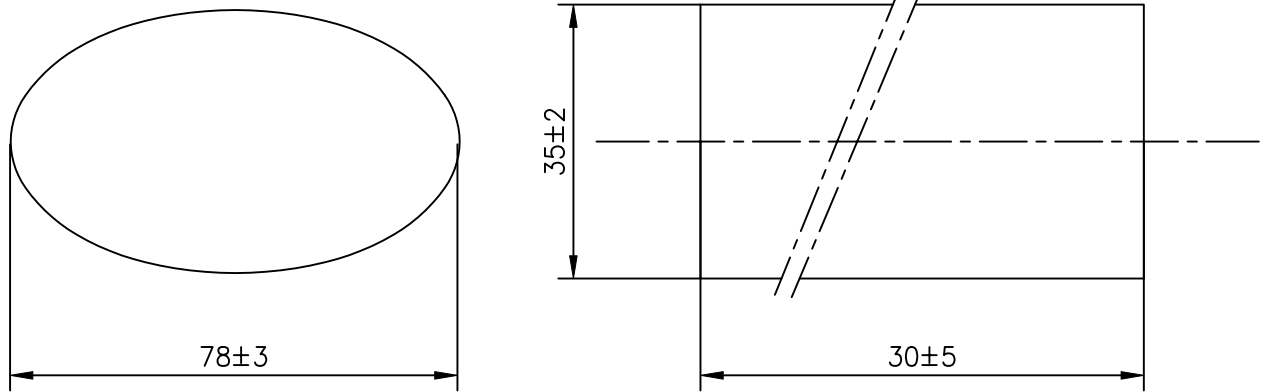

FIG 1
- 3) M/s Grauer & Weil (I) Ltd
- Nickel Anode - As per FIG 1.